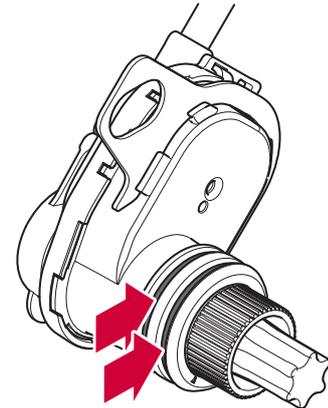

Figure 100. PWI/PWIS grease o-rings
2. With a finger smear a thin layer of general purpose grease around the two o-rings on the Sensors (see figure 100).